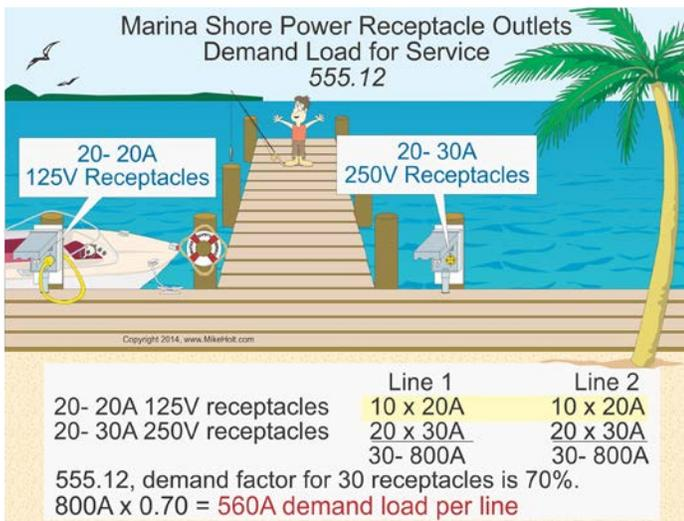

Figure 555–12
Question: What size 120/240V, single-phase service is required for a marina with twenty 20A, 125V receptacles, and twenty 30A, 250V receptacles? **Figure 555–12**
(B) Equipment Grounding Conductor. The equipment grounding conductor must be an insulated conductor with a continuous outer finish that’s green or green with one or more yellow stripes. **Figure 555–13**